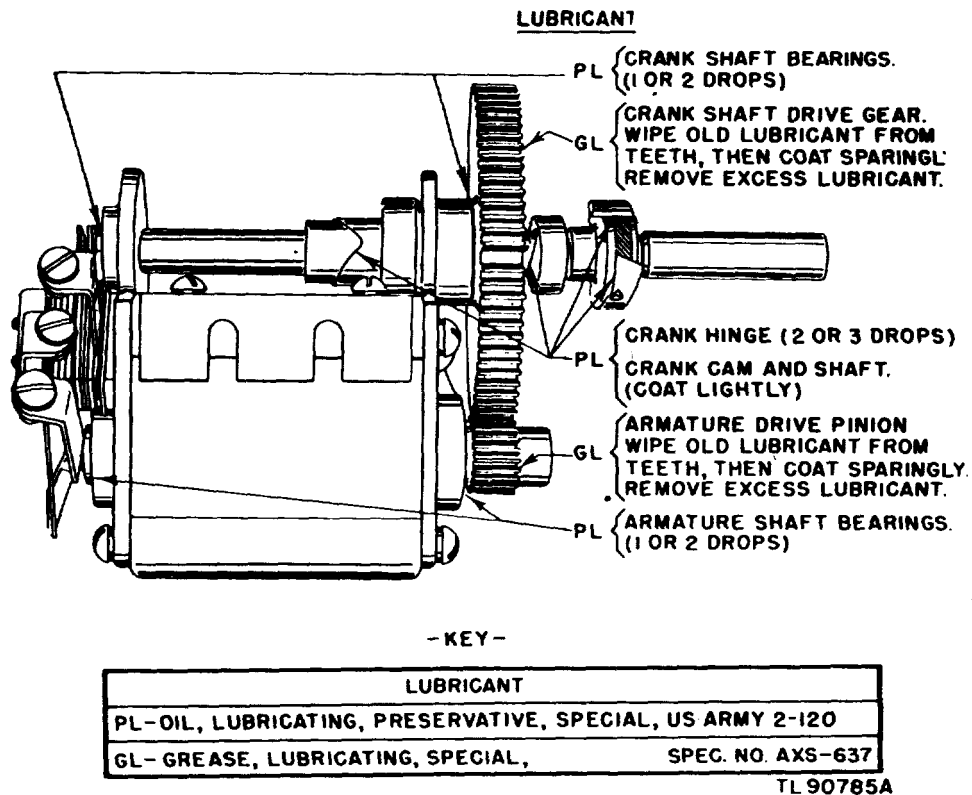

Figure 9. Lubricants and lubricating points for Generator GN-38-( ).
(GL) as directed in figure 9. The lubricants recommended can be used at all temperatures. Before lubricating parts with oil (PL-SPECIAL), wipe the dust from the exposed surfaces. Lubricate sparingly to prevent the lubricant from entering the generator or getting on the electrical contacts. Use only solvent (SD) for cleaning the generator.